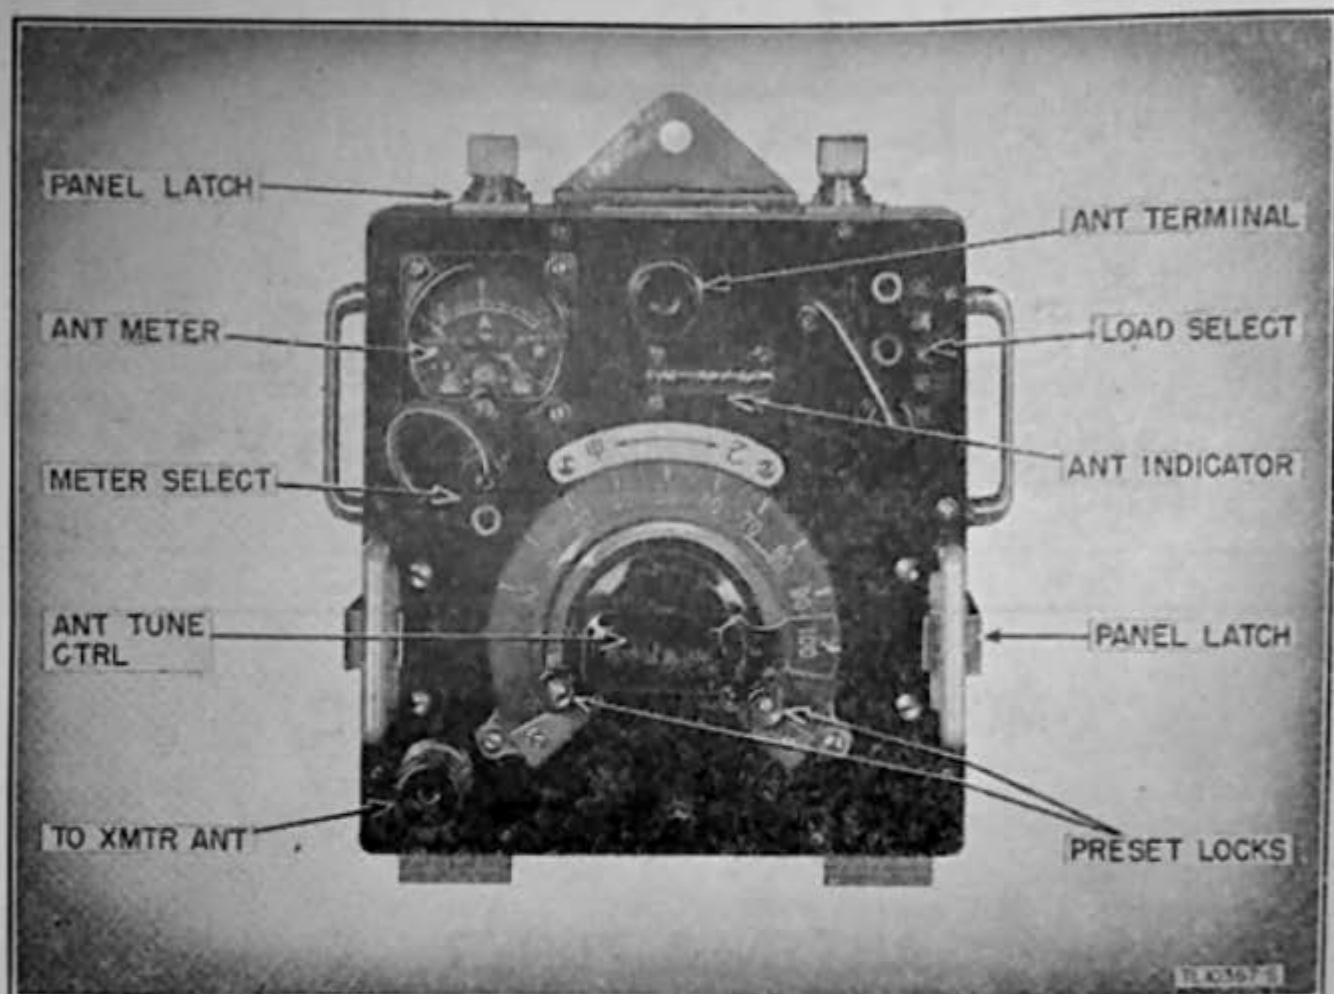

Figure 17. Antenna Tuner, view of control panel.
a. *Physical.* The nameplate of the antenna tuner and its American equivalent are shown in figure 16. Figure 17 is a view of the antenna tuner front panel with all parts and controls clearly labeled. All the components of the antenna tuner are mounted on a bakelite panel fitted into a brown, wooden case. The panel is secured in the